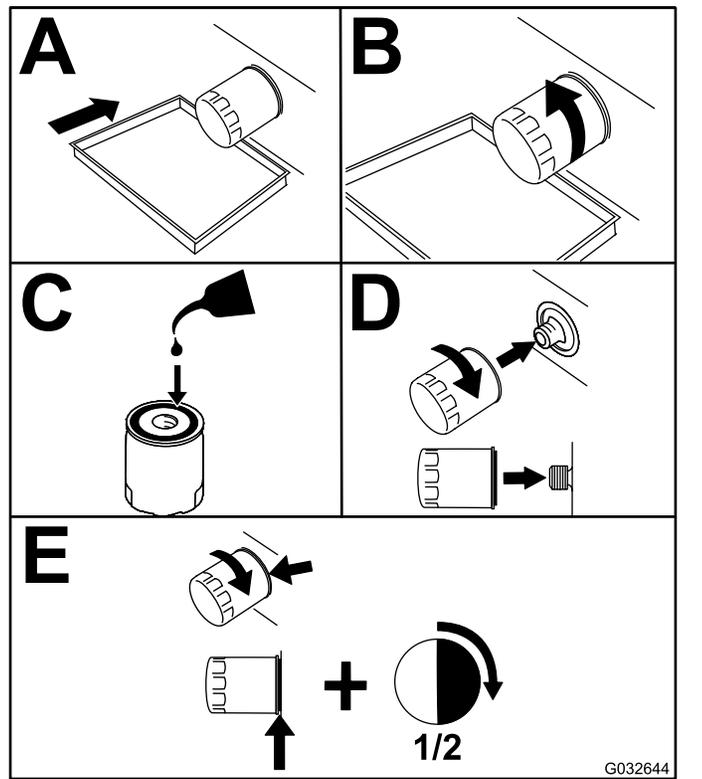

Figure 65
2. Change the engine-oil filter (Figure 65).